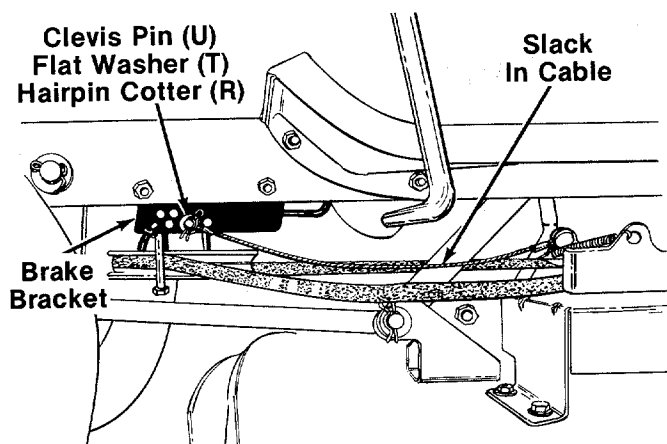

FIGURE 13.
- b. Pull the cable toward the front of the tractor and line it up with a hole in the brake bracket. Attach it to the bracket with clevis pin (U), flat washer (T) and hairpin cotter (R). There should be some slack in the cable as shown in figure 13.